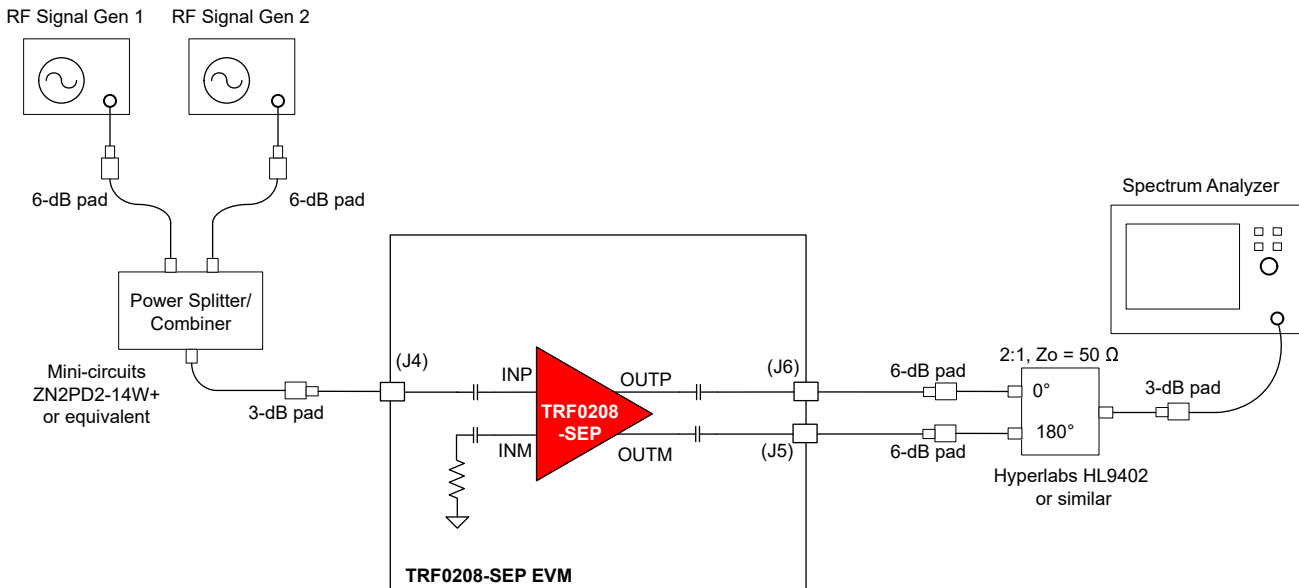

Figure 3-4. OIP3 Test Setup
1. As Figure 3-4 shows, combine two signal generator outputs using an in-phase power splitter and combiner. A 6-dB attenuator is recommended at the signal generator outputs to prevent the generators from talking to each other and resulting in signal generator IMD3 spurs.